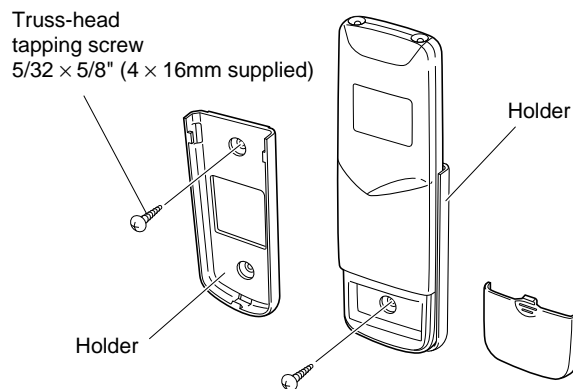

Fig. 57
- 1) Mount the holder to the wall with one of the screws (using only the hole in the top of the holder) (Fig. 57).